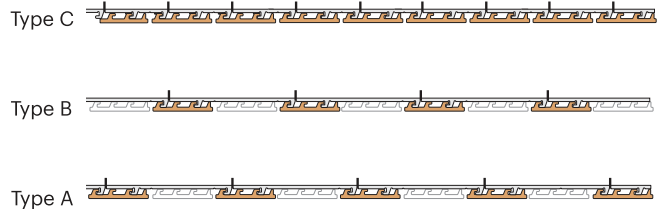

FIG. V6
3. There are three types of SLAT Profiles. Type A, Type B, and Type C (FIG. V6).